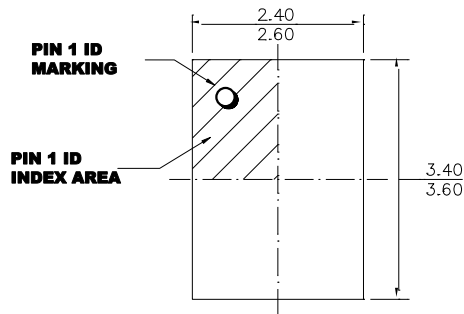

**Figure 7: Typical Application Circuit (1.8V/1.2V VOUT)**
- 9) The recommended PCB layout is based on Figure 7 on page 24.